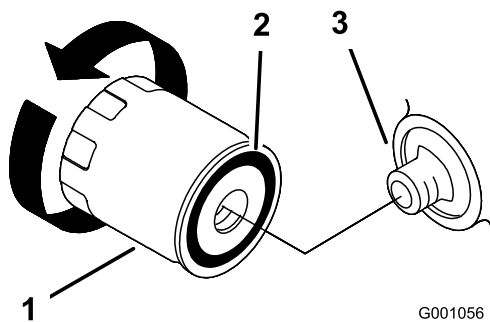

Figure 40
- Remove the old filter and wipe the filler adapter gasket surface (Figure 40).
- Apply a thin coat of new oil to the rubber gasket on the replacement filter (Figure 40).
- Install the replacement oil filter to the filter adapter, turn the oil filter clockwise until the rubber gasket contacts the filter adapter, then tighten the filter an additional 2/3 to 1 turn (Figure 40).